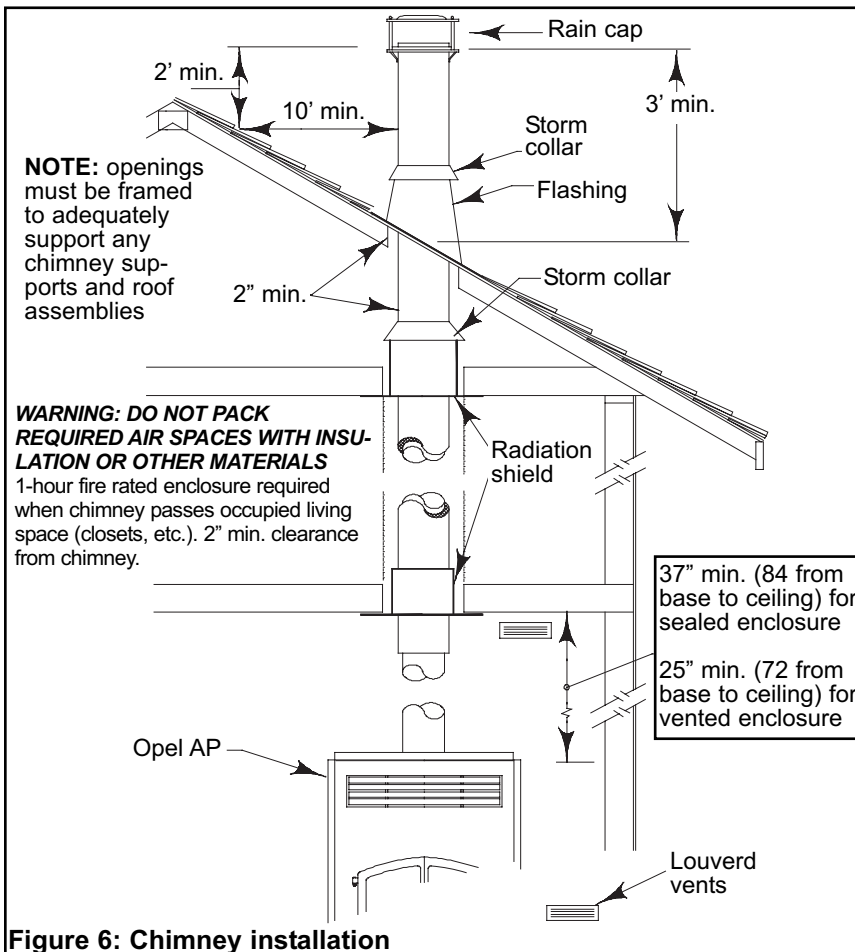

Figure 6: Chimney installation
2. From below, install a radiation shield in each floor through which the chimney passes. At the attic level, install a radiation shield and a storm collar as shown in (Figure 6).